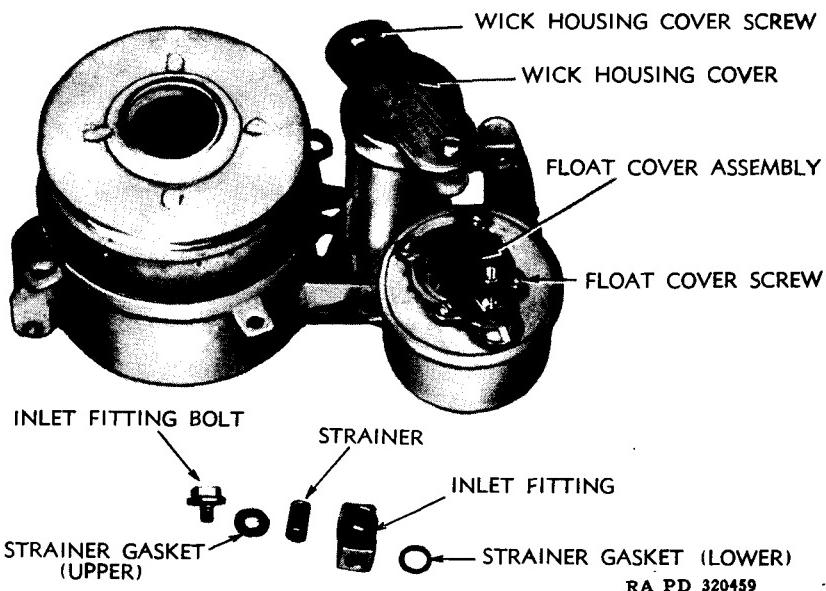

Figure 45 — Burner Assembly—Top View
c. Remove Float Valve Assembly. Remove inlet fitting bolt (fig. 45) and lift off upper strainer gasket, strainer, inlet fitting, and lower strainer gasket. Remove four screws and lock washers holding float valve assembly to burner assembly.
c. Install Float Valve Assembly. Hold float valve seat with external threaded end up, and install a strainer lower gasket over threads. Then install needle valve into seat with drilled hole end up, and insert small spring into drilled hole. Turn float cover assembly right side up, screw valve assembly into bottom of float cover, and tighten securely. Install new float cover gasket onto float bowl. Install float assembly with four screws and lock washers (fig. 45). Install strainer lower gasket, inlet fitting, strainer, strainer upper gasket, and inlet fitting bolt (fig. 45).